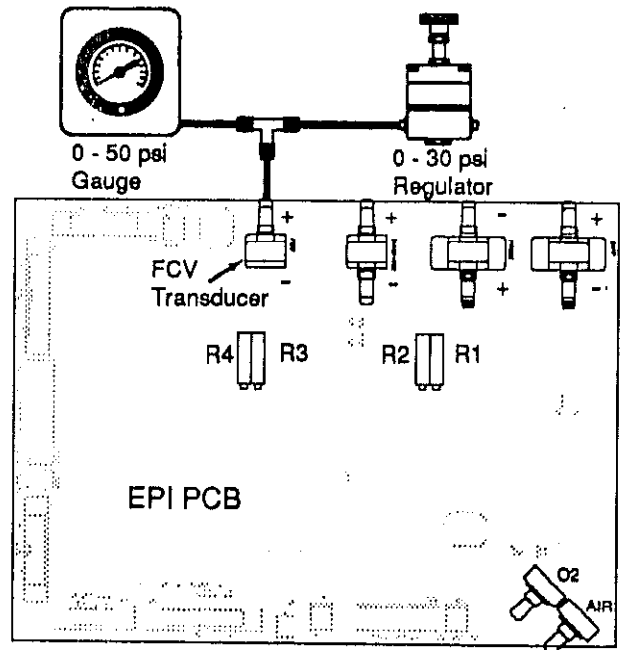

Figure 5-6
7. Connect the FCV Transducer as shown in Figure 5-6 and apply 12 ±.5 psig pressure.